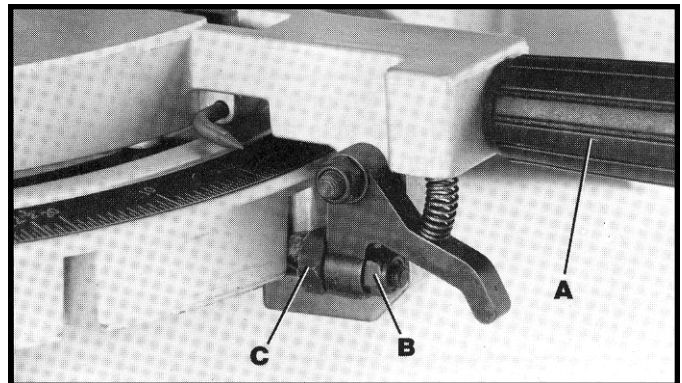

Fig. 23
4. If an adjustment is necessary, loosen the lock handle (A) Fig. 23, one turn. Then loosen locknut (B) and turn eccentric nut (C) right or left as necessary and tighten lock nut (B).